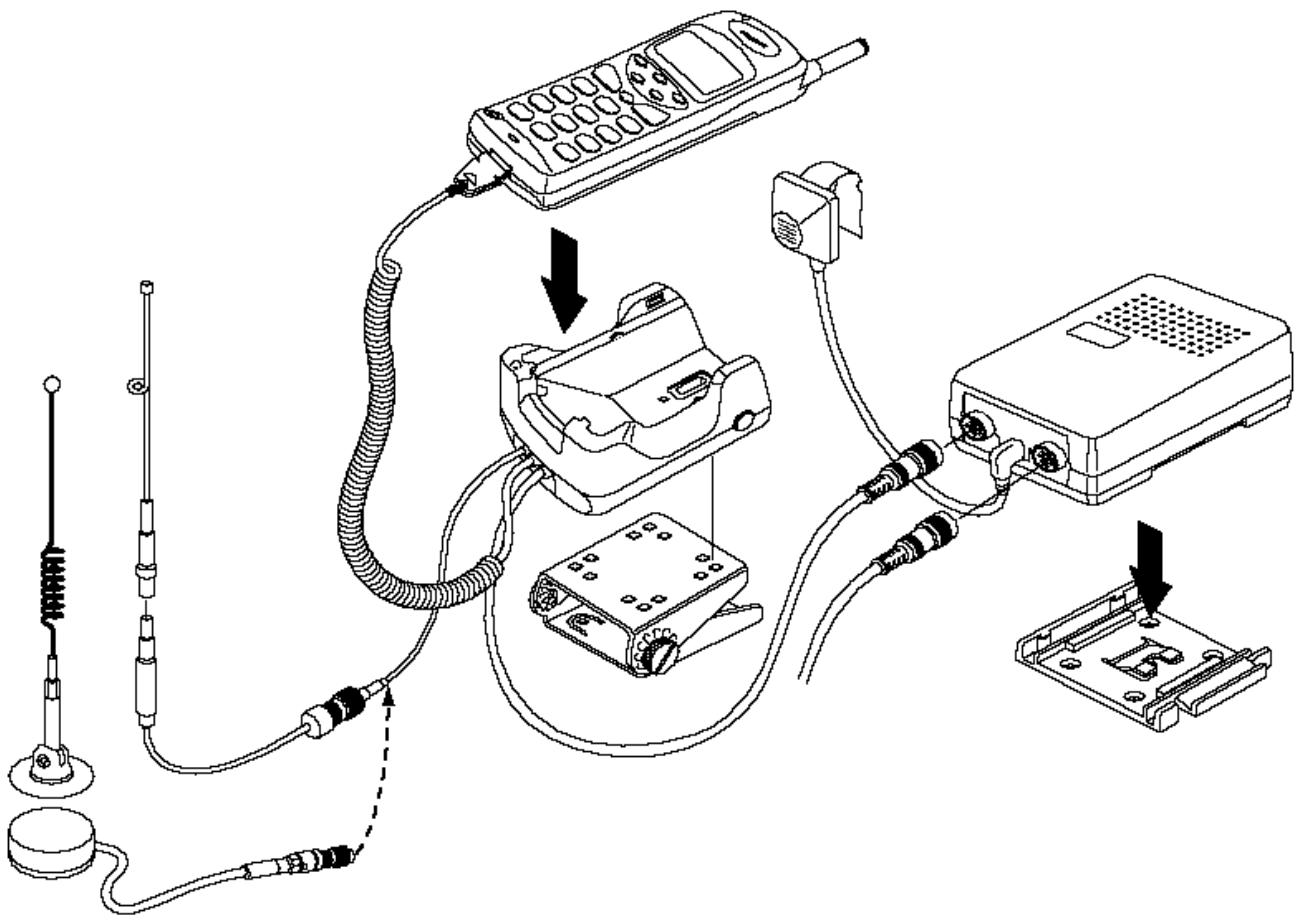

Figure 2-4 Cable Connections
1. Connect the cradle and the hands-free box with the data cable. See the figure 2-4.